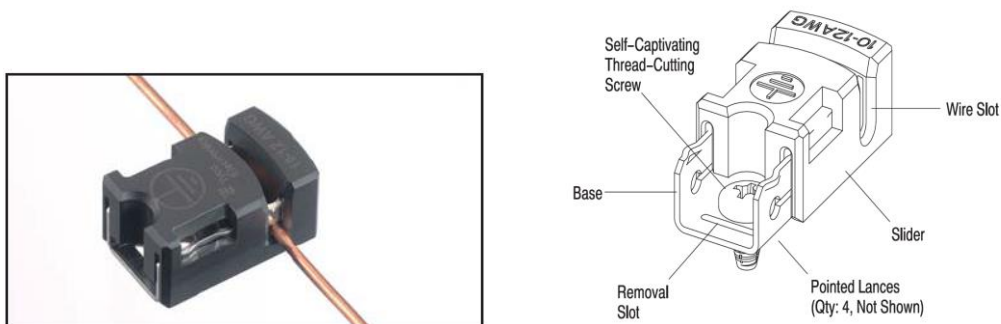
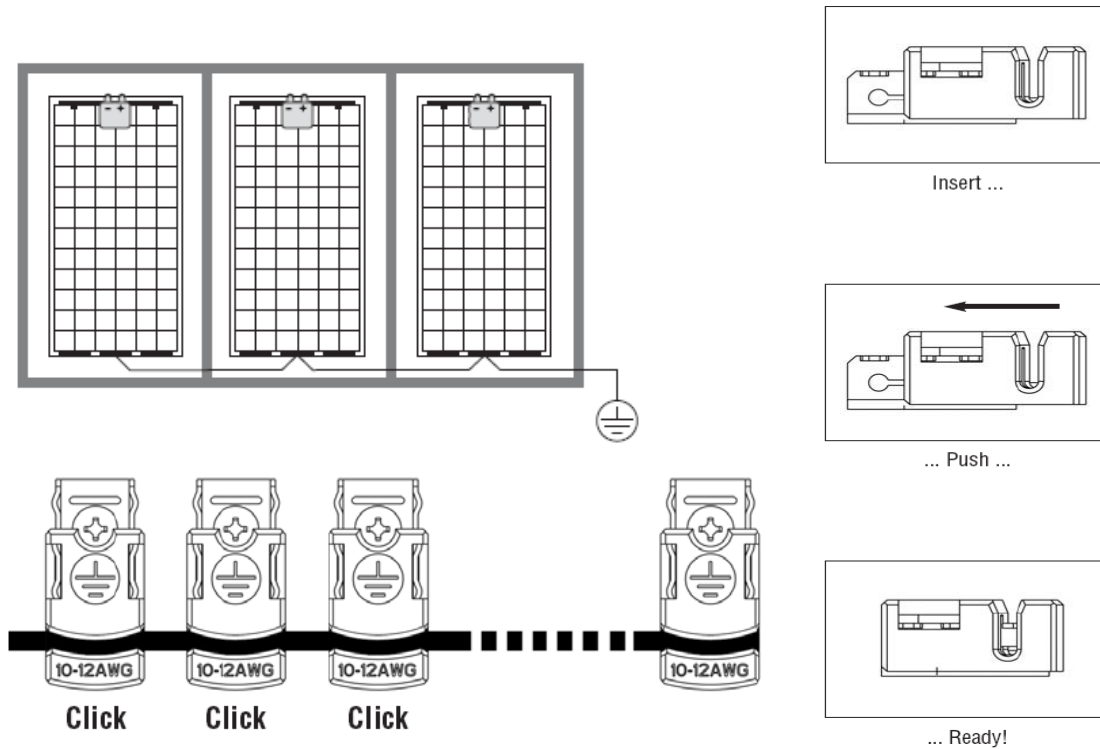

Figure 6
Figure 7
- The grounding clip (refer to “Application Specification 114-13203” from Tyco) assembly consists of a slider, base, and self-captivating thread-cutting screw (refer to Figure 6, Figure 7). The slider is used to hold the wire. The screw is used to mount the grounding clip to the frame (of the solar panel). The slider features a multi-dimensional curved wire slot that provides enhanced wire retention. The base is used to terminate the wire. The base features pointed lances that provide four points of contact to the frame for high reliability and anti-rotation of the grounding clip. The removal slot accepts the tip of a flat-head screwdriver which is used to disengage the slider. When the slider is disengaged and the screw is exposed for removal, the wire can be removed.